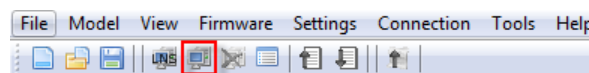

Figure 59: LINX Configurator software, Connect to device
1. Select the IP connection method by clicking on the **Connect to device** button in the tool bar as shown in Figure 59.